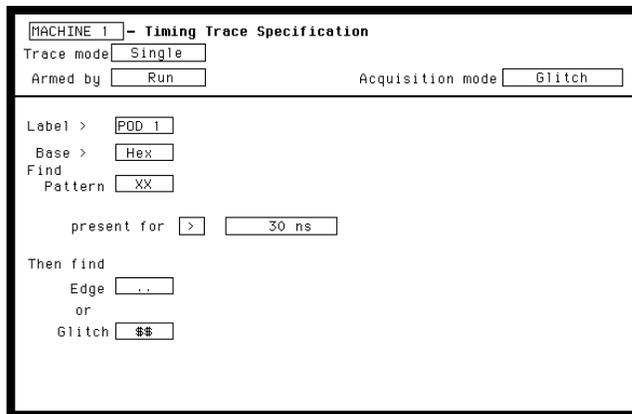

Figure 3-33. Glitch Test Timing Trace Specification
5. Set **Timing Trace Specification** as in figure 3-33. Follow steps a through c if